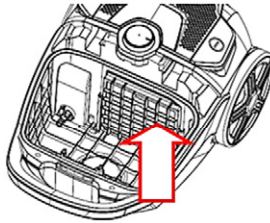

Fig 12
3. **Clean or Exchange the inlet filter:** Replace or Clean the Inlet filter when you notice that Inlet filter is dirty. Our recommendation is to clean or replace inlet filter after every 3x Dust bag changes (Fig 12 and 13).
3. The Hepa exhaust filter and motor protection filter should be cleaned or exchanged after it is dirt. (Fig 12 - 14)